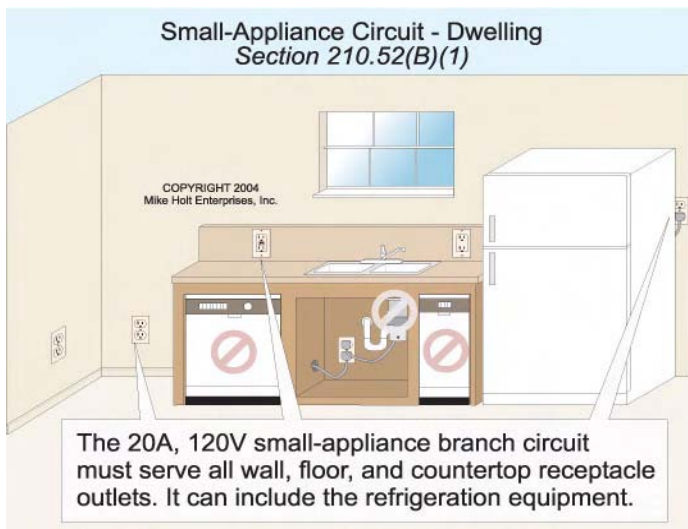

Figure 210-51
(1) Receptacle Outlets. The 20A, 120V small-appliance branch circuits serving the kitchen, pantry, breakfast room, and dining room area of a dwelling unit [210.11(C)(1)] must serve all wall, floor, countertop receptacle outlets [210.52(C)], and the receptacle outlet for refrigeration equipment. **Figure 210-51**